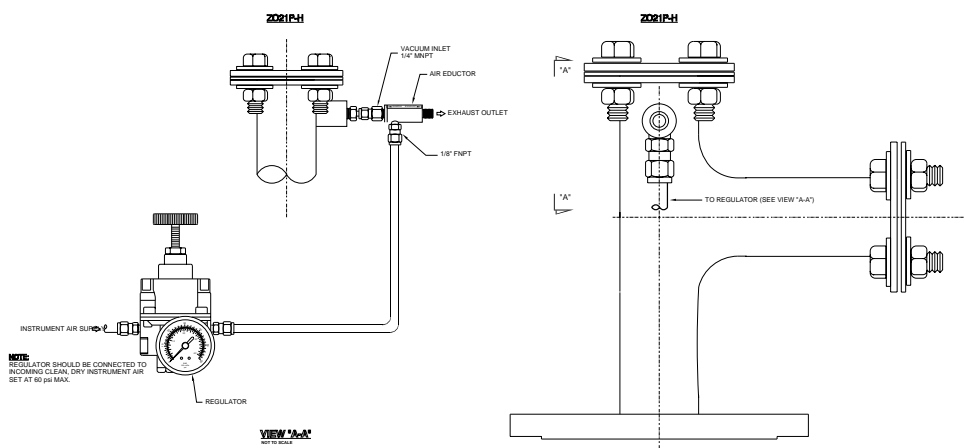

Figure 29: ZO21P High Temperature Adapter Tee
- 8) If the process duct pressure is negative, attach an eductor to the ZO21P adapter as shown in figure 29.
When the process pressure is negative or equal to that of atmosphere, an ejector is used to create a positive force that draws a sample through the high temperature assembly. There is a choice of either an air or water ejector. Water is self-cleaning, and is used when the sample contains a large volume of particulates that would cause the exhaust of the eductor to plug if air were used. The ejector is attached to the high temperature adapter's eductor port fitting, which is a 1/4" FNPT connection. When the eductor return option (/ER) is selected, an air eductor is pre-attached to the ZO21P adapter, and the exhaust is returned to the process via 316 stainless steel tubing. However, for all other options, the User must provide the exhaust plumbing to atmosphere, drain, etc. Note the following procedure for installing an eductor (refer to figure 29):